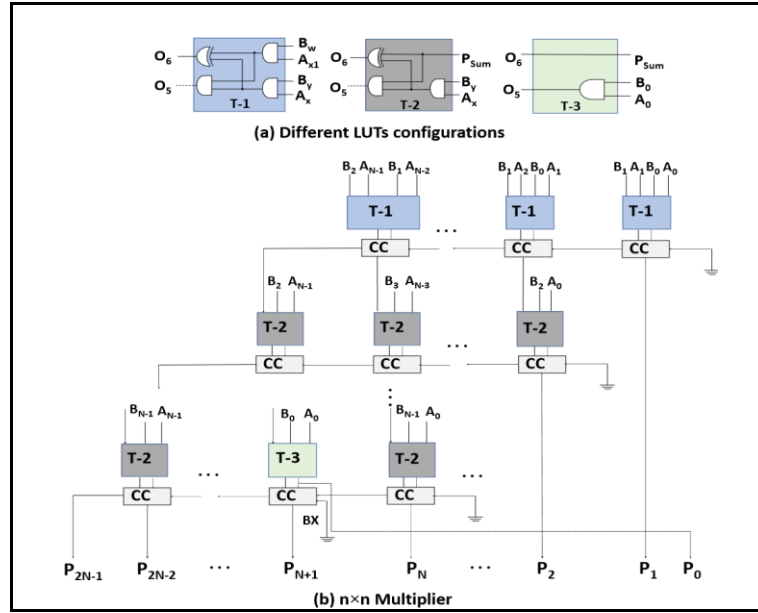
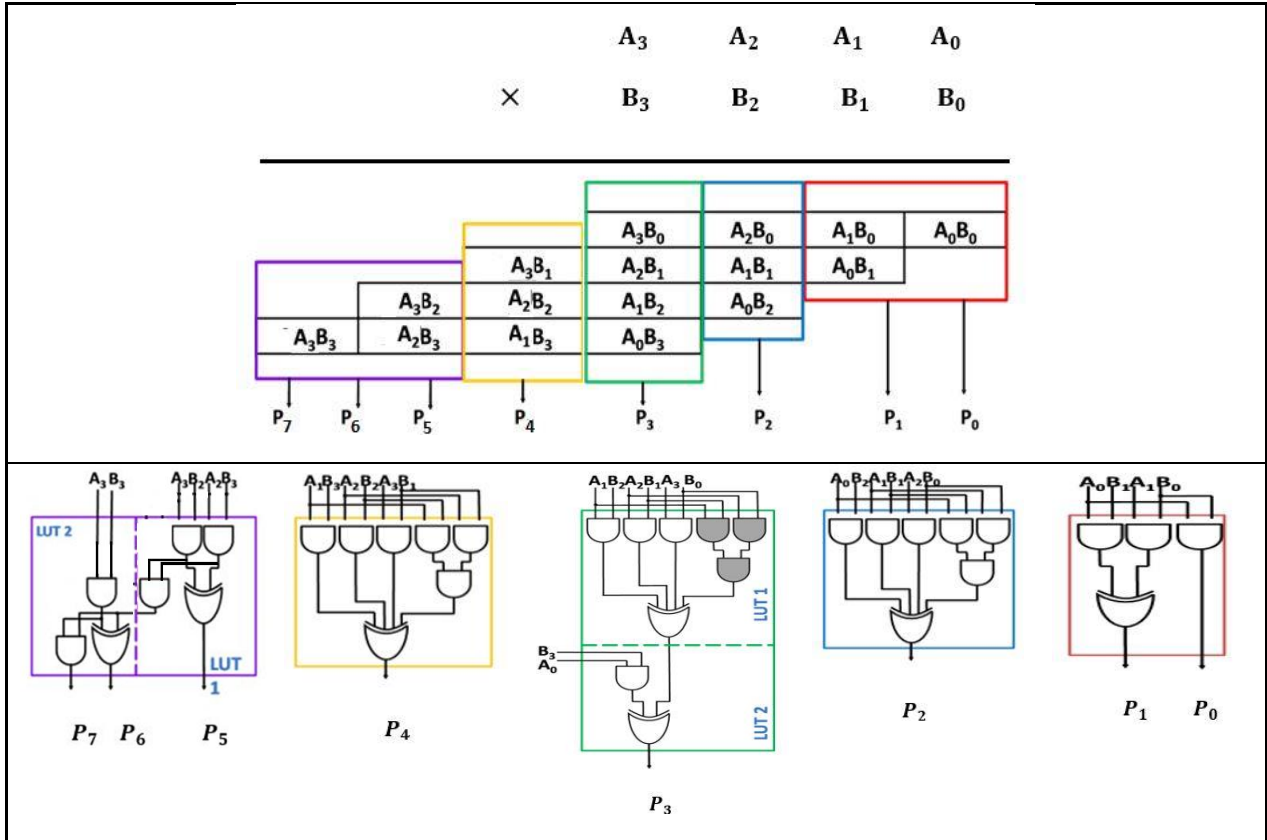

Figure 2. Area and energy efficient implementation of $n \times n$ multiplier
Figure 3.(a) Grouping partial products in each layer,(b)Function of partial product group's LUT
FPGA Optimized Accurate Multiplier. (Just For Study) Utilizing the general structure of a $n \times n$ multiplier and exploiting the 6-input LUTs and fast carry chains of modern FPGAs, an accurate $n \times n$ array multiplier has been shown in Figure 2.
This accurate multiplier combines the processes of partial products generation and their accumulation into a single step, to efficiently utilize FPGA resources. For this purpose, it classifies the LUTs into three configurations: T-1, T-2 and T-3 as shown in Figure 2(a). As shown in Figure 2(b), the first row of this accurate multiplier has LUTs with T-1 configuration and it generates the first two rows of partial products of a $n \times n$ multiplier and accumulates them using the associated carry chain. The remaining $n - 2$ rows have LUTs with configuration T-2 for generation of the remaining partial products and their accumulation through the carry chains. The last row has an LUT of Type T-3 for generation of product bits P_{N+1} and P_0 . Using this accurate multiplier, some approximation techniques can be proposed to enable gains in area, latency and energy.
FPGA Optimized Approximate Multiplier. (You Should Implement) Figure 3 shows an approximate design that is optimized to improve latency and energy gains of the accurate multiplier shown in Figure 2 by removing the associated carry chains for partial products accumulation. The first step in this approximate design is grouping the partial products into multiple layers, as shown by the different color boxes in Figure 3.
As shown by the red box in Figure 3(a), the first two columns in each layer can be accurately produced by a single LUT. The corresponding red box in Figure 3(b) shows the implementation of the function performed by the LUT. Similarly, the blue box in Figure 3(b), utilizes a single LUT to accurately generate and add the partial products in the third column. The yellow box in third last column of each layer, is utilized for approximately computing the sum of partial products. The approximation in the function performed by the yellow box is the result of predicting the carry-out from the preceding column. The purple boxes are utilized to compute the final two product bits in each layer. As shown in Figure 3(b), the purple boxes utilize two LUTs for improving the accuracy of the most significant bit. As all the partial product bits grouped by green boxes contain four partial product terms, the proposed approximation utilizes two 6-input LUTs per group for generating and computing the sum of these bits. As shown by green box in Figure 3(b) a 6-input LUT is used for computing the first three partial product terms in each group. This LUT also implements three AND gates, identified by shading, to predict the carry from preceding bit locations. The computed three partial product terms and the predicted carry are added together to generate an approximate sum. Also by using a second LUT, this sum is again added with the fourth partial product term to compute the final approximate sum of the group.
- 3) **Approximate multiplier with LUTs** based on Figure 3 that has been specifically designed for FPGA-based systems. You must use the proper **Coding Style** method.